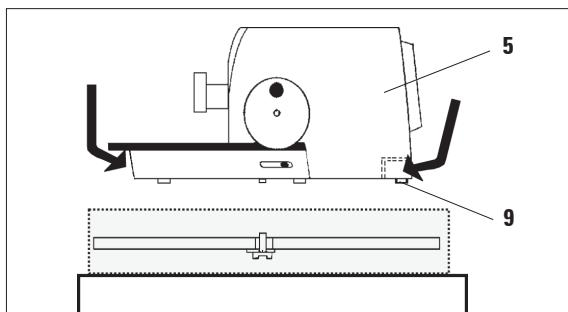

Fig. 10
- Loosen and unscrew the four upper screws (7).
- Remove the cover (1).
- Take out the accessories box (2) and instruction manual.
- Take out the fixing module (3).
- Remove the eight lower screws (8).
- Carefully pull up the wooden case (4).
- Lift the instrument (5) by holding it by the base plate and the recessed grip on the back (see Fig. 10) and lift it out of the formed cushion (6).